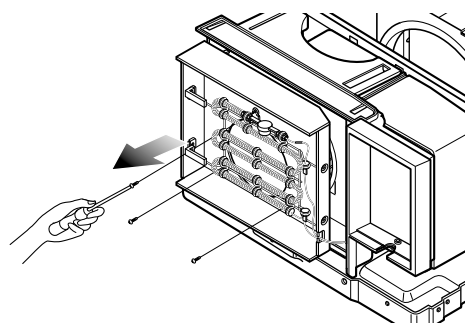

Figure 18
9. Remove the 2 terminals carefully. (See Figure 18, at Electric heater Model)
10. Remove the 3 screws that fasten the Heater Cover. (See Figure 18, at Electric Heater Model)
11. Remove the Heater cover. (See Figure 18, at Electric Heater Model)